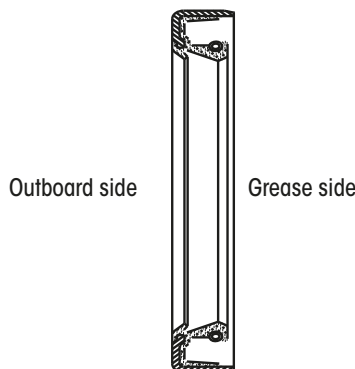

Figure 79: TRLAXLE S-Cam Seal Orientation
5. Install new seal, without any grease, on outboard side of spider cam bore with the seal oriented as shown in Figure 79 and press into spider bore with a suitable tool.